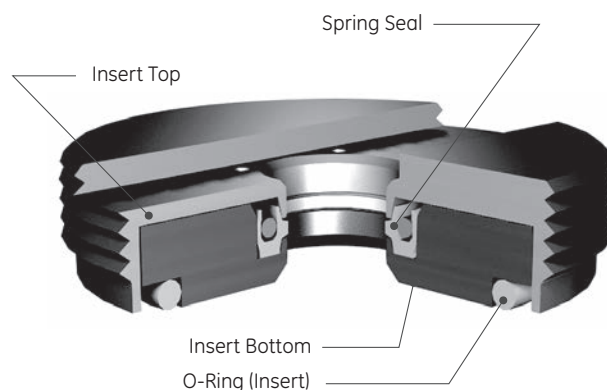

Figure 59: Insert Assembly
- e. Final Insert Assembly is shown in Figure 59.